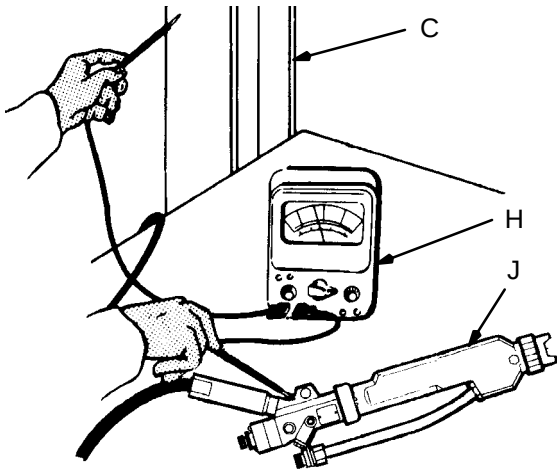

Fig 3
To check for proper grounding, turn off the line power switch and use the ohmmeter (H) to measure the resistance between the actuator of the gun (J) and a true earth ground (C). See Fig 3. The resistance should be less than 30 ohms. If the resistance is more than 30 ohms, check the connections of all wires and other connectors and check the individual components of your system for proper grounding.